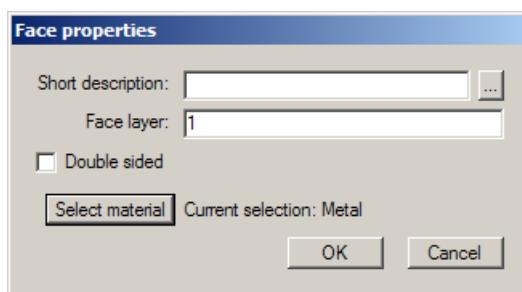

Figure 16.4: Setting the layer of an absorber face
1. The floor face is set to layer 0, while all absorber layers on top of the floor should have a layer number between 1 and 15. This is set in the FACE PROPERTIES Window, shown in Figure 16.4.